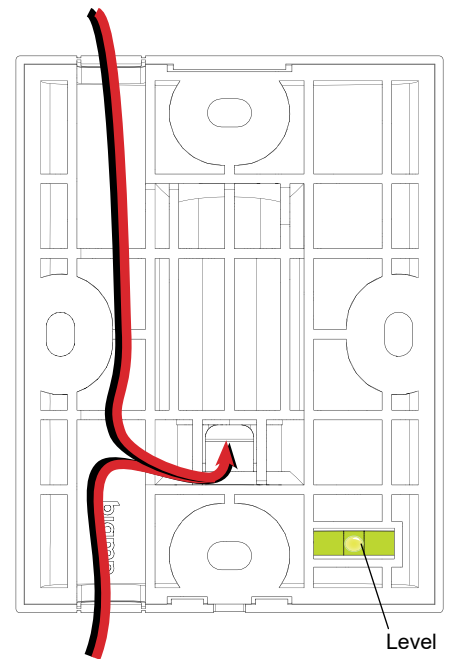

Figure 1. Wire routes through the rear of the ClickMount Pan-tilt Bracket
1. Route the wire through the channel in the wall bracket and out the hole in the base (Figure 1), and attach the wall plate to the mounting surface (attachment hardware is not included). There is a small level in the backplate to ensure the bracket is straight. *Do NOT install the cover plate yet* - wait until the loudspeaker is ready for installation. Pull enough wire through so that the bracket arm can be fully tilted or panned.